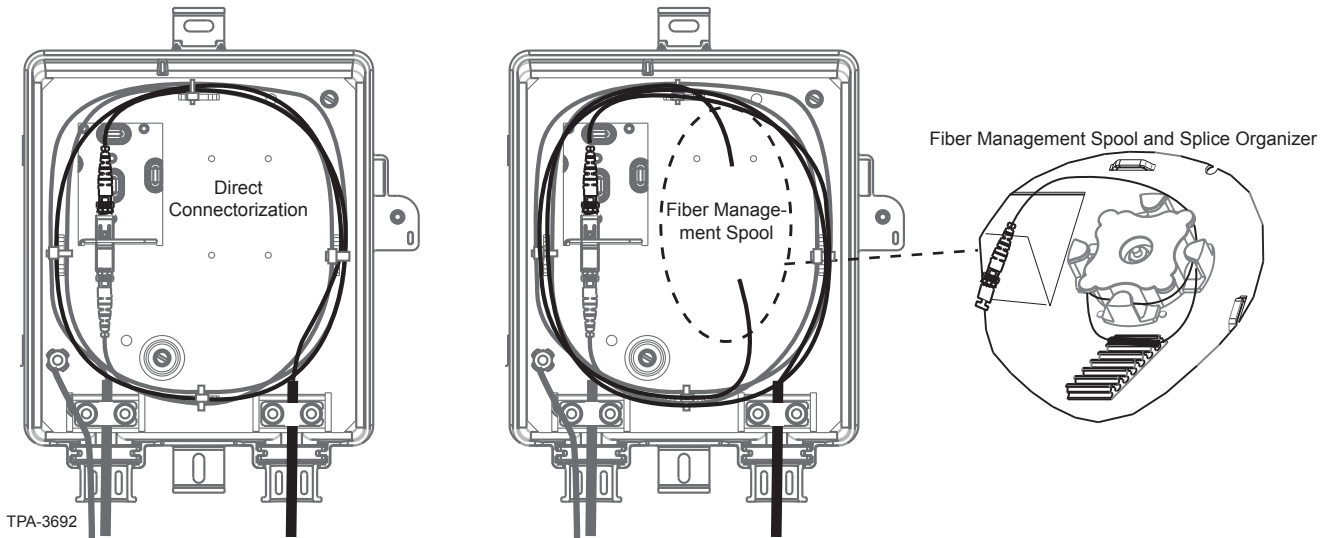

Figure 4 — Install Drop Cable
- Step 2:** If splicing is required, splice to pigtails per the instructions provided with the splicing equipment. Store fiber in the splice organizer and fiber management spool (Figure 4).